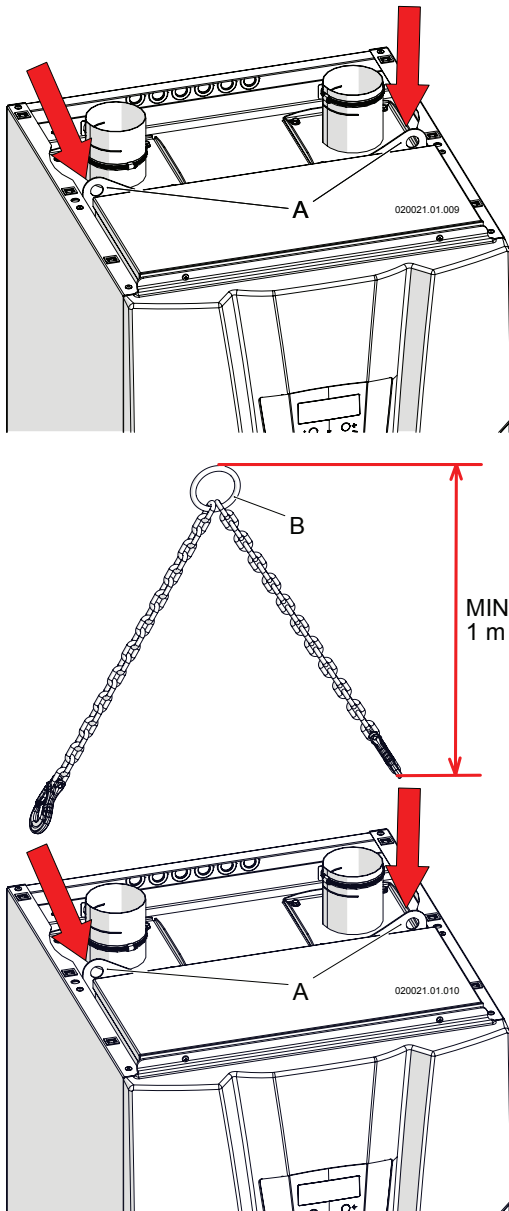

Figure 6-1 - Lifting system
There is a bracket (detail "A" in Figure 6-1) to facilitate installation that allows the appliance to be lifted.
- ☞ Hook lifting cables "B" to the bracket "A" in Figure 6-1, and lift the appliance.
Once the appliance has been positioned properly, the lifting cables (detail "B" in Figure 6-1) must be removed before applying the top cover.